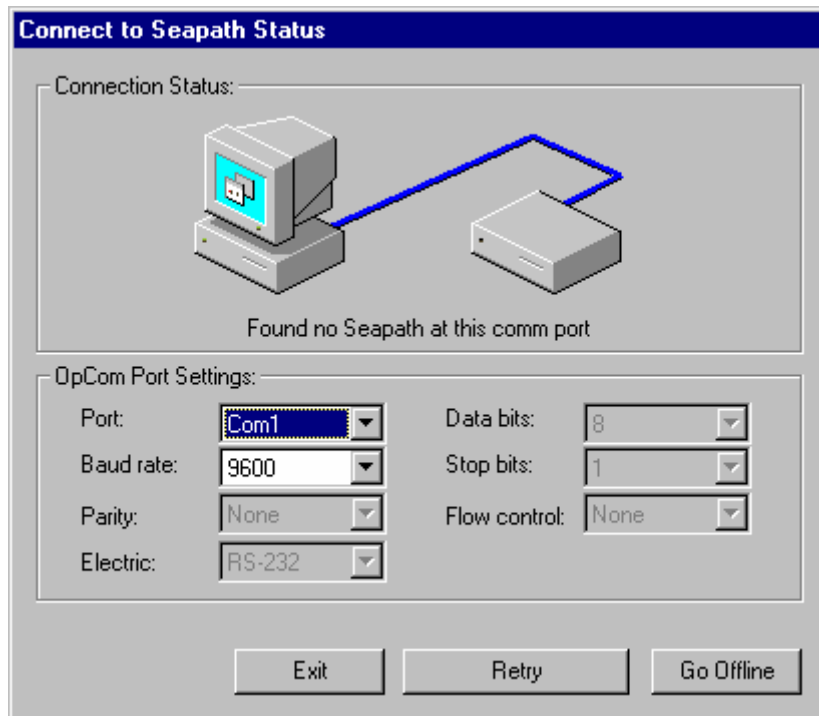

Figure 23 Connect Status
1. **Connect.** System tries to establish communication with Seapath. If connection fails, Figure 23 is shown.